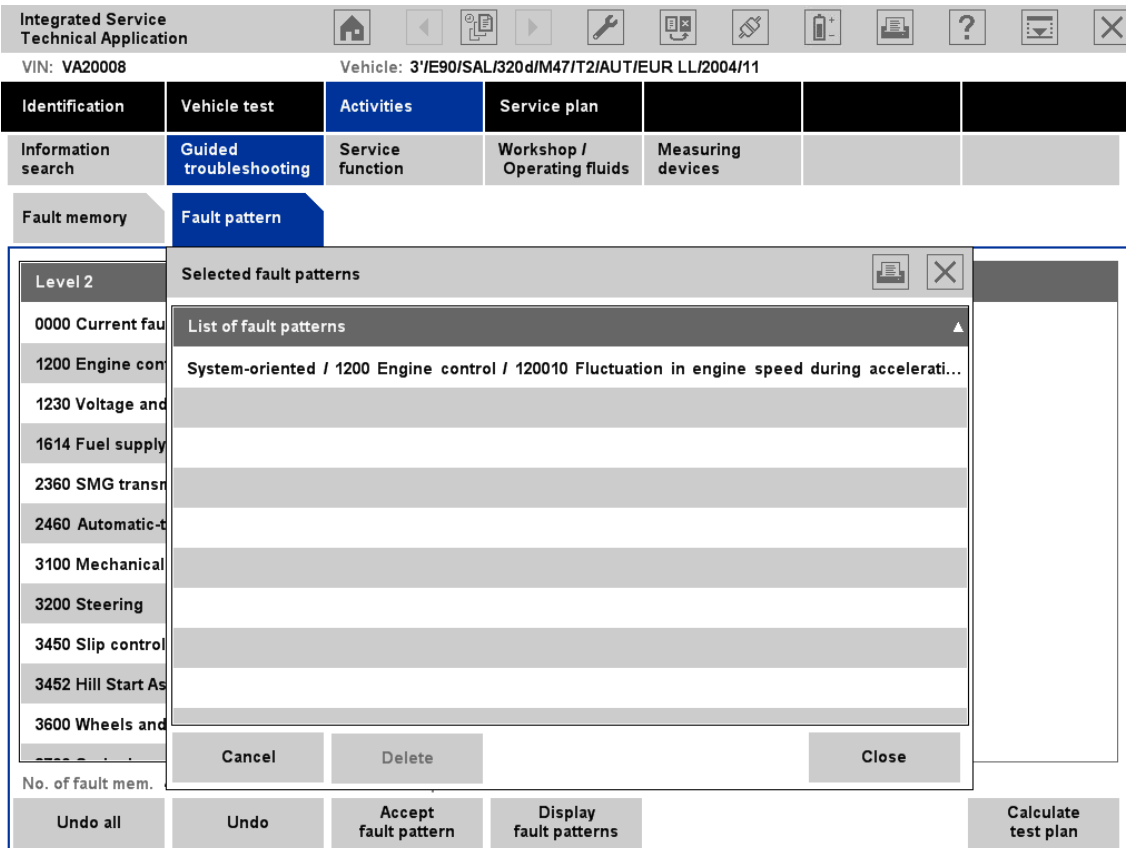

Fig. 3.29 "Fault pattern" tab with "Selected fault patterns" popup
- ◇ **Display fault patterns:** When clicking this button, a popup appears containing all the previously saved fault patterns (Fig. 3.29)